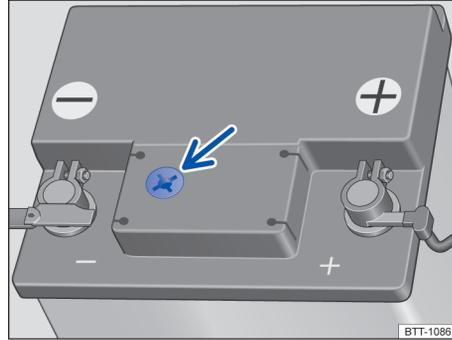

Fig. 176 On the engine compartment: example of display position on the upper side of the vehicle battery.
- The round display → Fig. 176 on the top side of the vehicle battery changes its colour according to the electrolyte level.